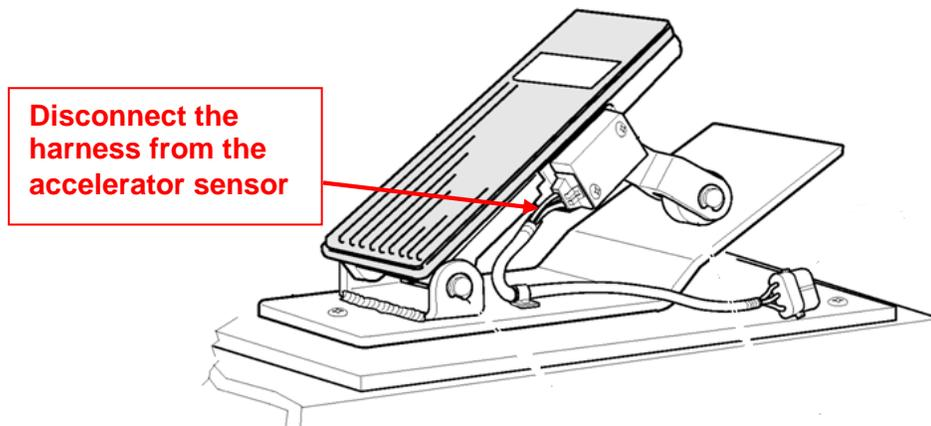

Figure 3: Brake/Accelerator Treadle Assembly
11. Disconnect the harness from the accelerator sensor, see Figure 3.
28. Using the hardware previously removed in Step 14 and 2 new lock nuts (PN: 40N05000), reinstall the treadle footrest. Place a washer between mounting plate and lock nuts, see Figure 3(c).